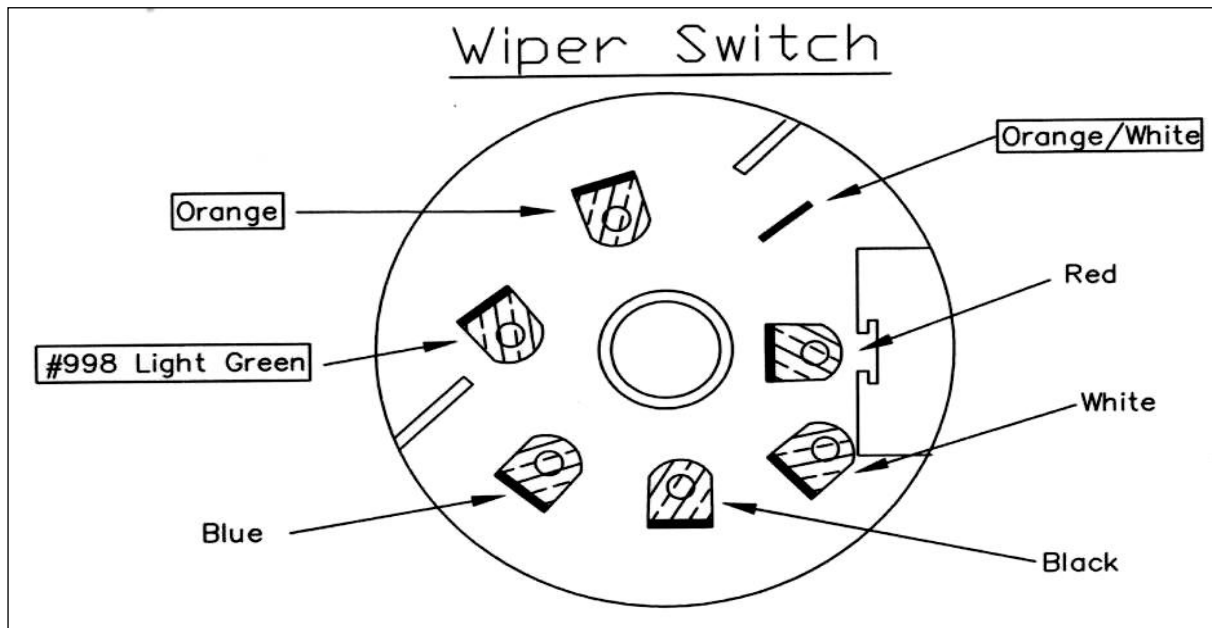

Figure 7-20 Wiper Switch Connections (All Models)
7.10.1 All 1967-1977 Model Ford Trucks use the same Wiper Switch. The original connector for these wiper switches is no longer available, so the original one must be reused. Connect the ORANGE, ORANGE/WHITE, and #998 LIGHT GREEN wires as shown in **Figures 7-20 and 7-21**. The RED, WHITE, BLACK and BLUE wires all come from the wiper motor and are in the original connector. The ORANGE wire is also in the original connector and supplies power to the wiper switch and to the motor.